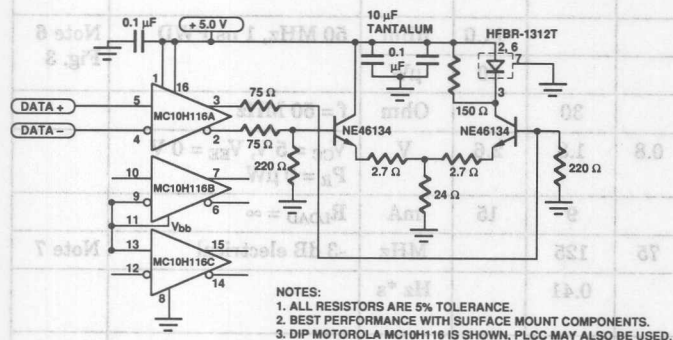

Figure 3. Recommended Transmitter Drive and Test Circuit.
7. Optical rise and fall times are measured from 10% to 90% with 62.5/125  $\mu\text{m}$  fiber. LED response time with recommended test circuit (Figure 3) at 25 MHz, 50% duty cycle.